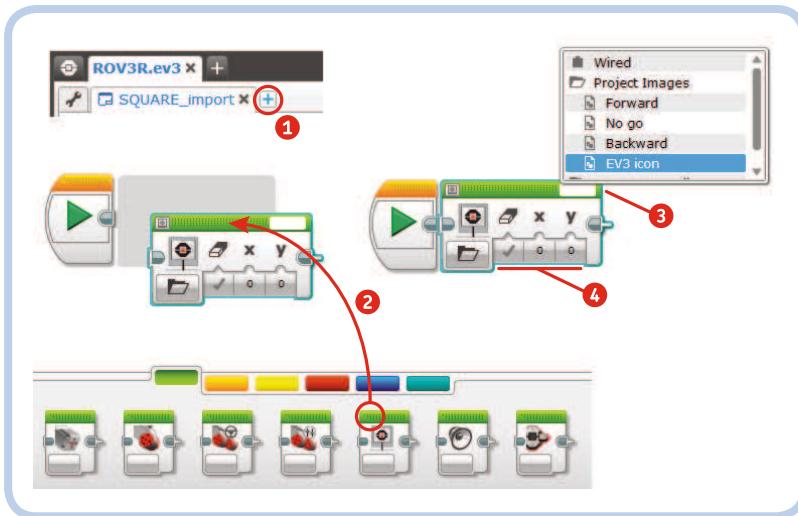

Figure 5-19: Adding and configuring blocks: the first steps in building a new program
The best way to learn the features of the Action blocks is to experiment with them. Using Figure 5-19 as your guide, add a new program to your project by clicking the **Add Program** (+) tab (1). Next, drag and drop a **Display** block to the sequence (2). Hold down the left mouse button while dragging the block; when the block is in almost in place, a gray shadow should appear. Release the mouse, and the block should snap into place automatically.